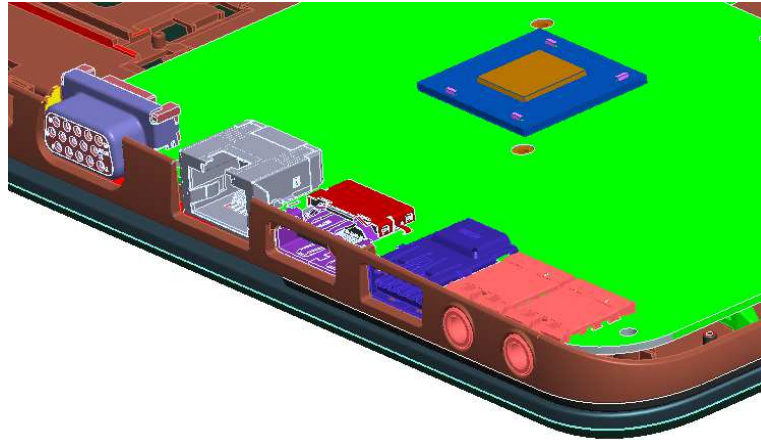

Figure 4-13-4 Put phone jacket, USB 3.0, HDMI, RJ45 and D-SUB connector at right position
2. Make sure the phone jacket, USB 3.0, HDMI, RJ45 and D-SUB connector assemble at right position. (See Figure 4-13-4)